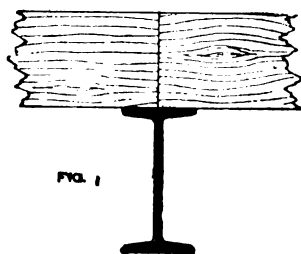

FIG. 1
**Strength of Rolled Steel Joists.**—The strength of rolled steel joists is not affected by the mode of fixing the common joists. Fig. 1 shows the simplest method